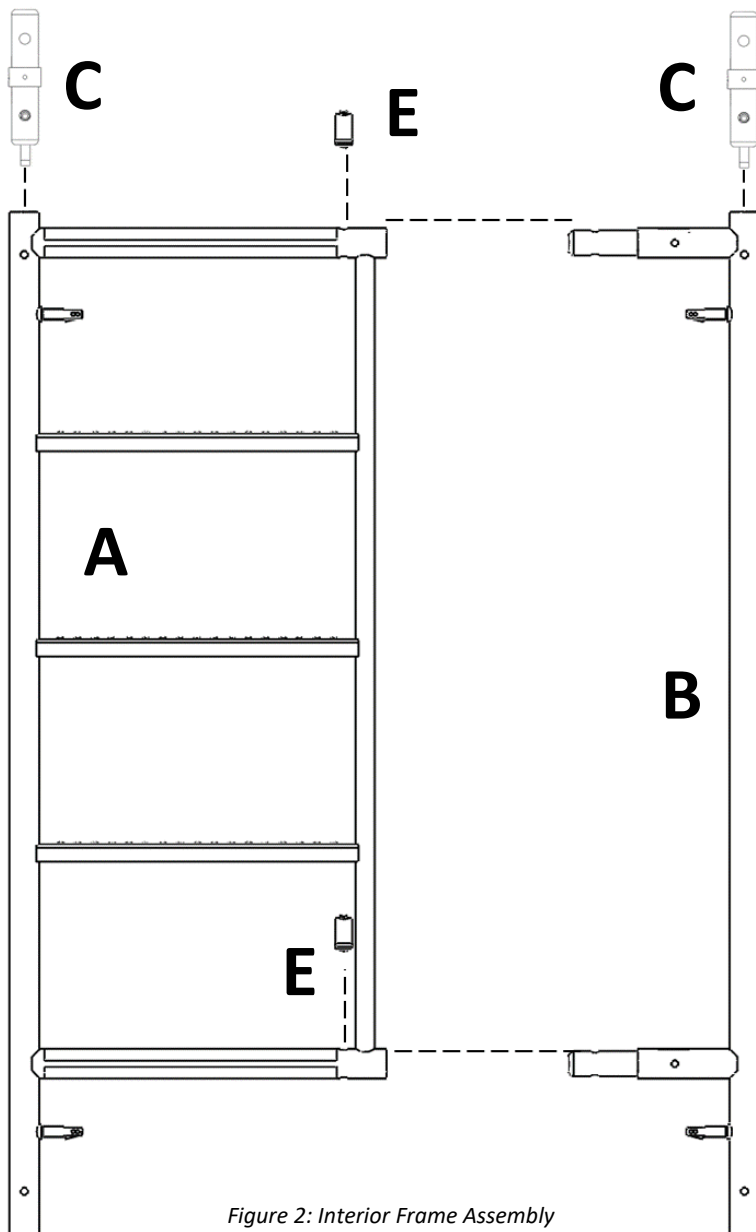

Figure 2: Interior Frame Assembly
5. Insert the Coupling Pins (C) into the Ladder Section (A) and Leg Section (B) (Fig. 2). Ensure the Spring Rivets inside the Coupling Pins (C) snap into place completely.
6. Place the Ladder Section (A) and Leg Section (B) on a flat and even surface large enough for the assembly of the frames.
7. For the Interior Scaffold configuration (Fig. 2), insert the Coupling Pins (C) on the Leg Section (B) into the hollow tubes of the Ladder Section (A) and install the 2 corresponding $\varnothing 1\text{-}5/8"$ Snap Clips (E). Top of $\varnothing 1\text{-}5/8"$ Snap Clip (E) should sit flush with top of the tube (Detail A).